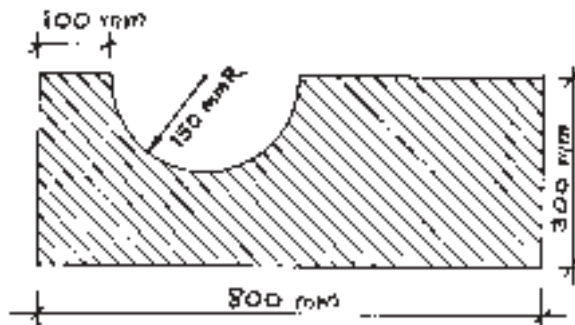

Fig. No. 8
- b) Locate the centroid of a shaded portion of a lamina as shown in Figure No. 8